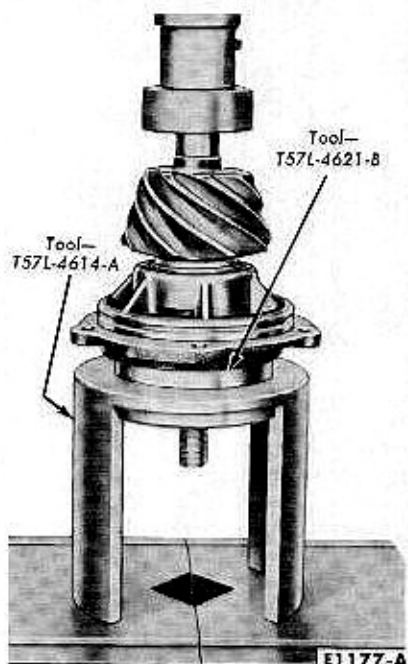

FIG. 21—Pinion Front Bearing Cone Installation
2. Place the bearing retainer on the pinion shaft, and install the front bearing cone and roller. Press the front bearing cone and roller into position as shown in Fig. 21. As the